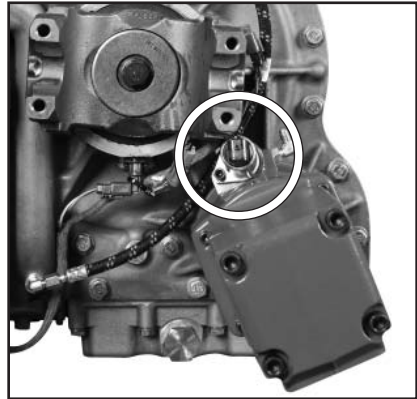

Fig. 26
7. DO NOT INSTALL P.T.O. with the solenoid between the 8 o'clock to 11 o'clock position as it could come into contact with the output yoke/ flange on the transmission. (Fig. 26)